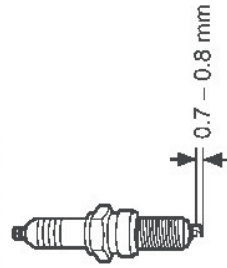

Fig. 19
6. Check the spark plug gap. It should be 0.7 – 0.8 mm (Fig. 19).
8. When replacing the spark plug, first screw it in hand tight and then lightly tighten it with the multi tool (27).